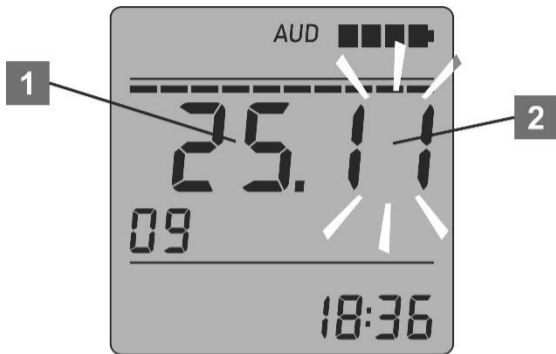

Figure 24 – LCD of the dosimeter
A short press of the MODE button fixes a new value of year in the dosimeter's memory. The new value of year blinks three times on the LCD of the dosimeter to show that it has been fixed. The date (1) and month (2) are then displayed on the LCD (Figure 24). When the month digits are blinking, it means that their values can be programmed. They are programmed with the help of the THRESHOLD button in a similar way to the minute digits programming.